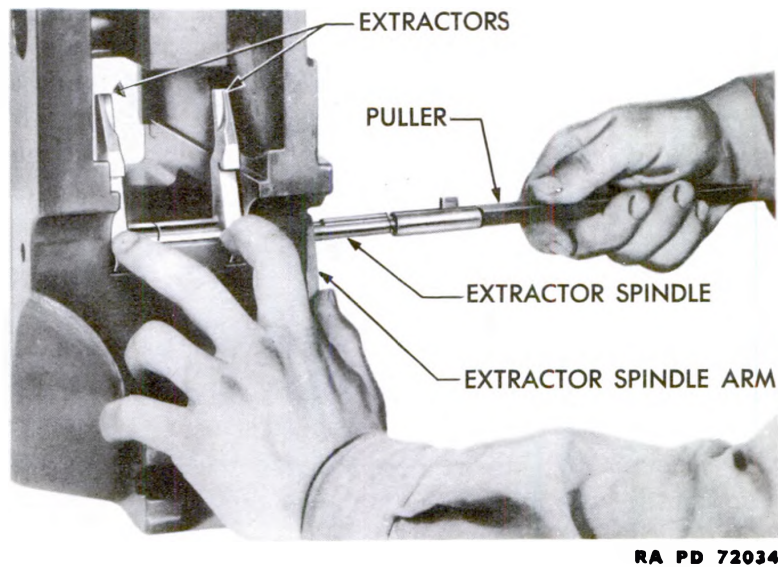

Figure 142 – Extractor Spindle Installation
spindle arm down, withdraw the extractor spindle (fig. 142). Remove the extractor spindle arm and the extractors from the breech ring.
b. **Extractor Installation.** Place the extractor spindle arm in position. Assemble the two extractors together and lay them in position in the breech ring. Align the keyways in the extractors and the key on the spindle arm by holding them in the manner shown in figure 142, and insert the extractor spindle.